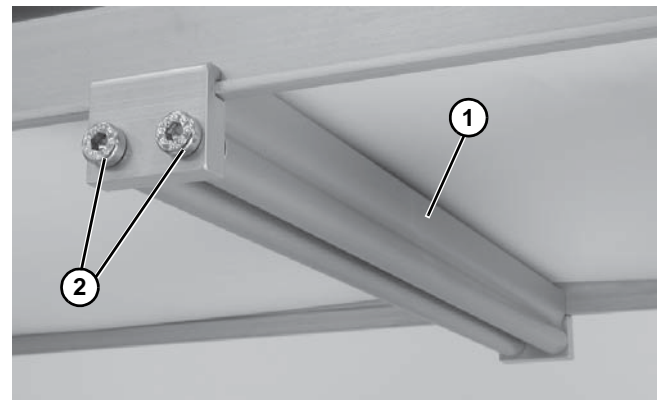

Figure 20
3. Install roller assembly as shown (Figure 20, item 1). Tighten screws (Figure 20, item 2) to 60 in-lb (7 Nm).